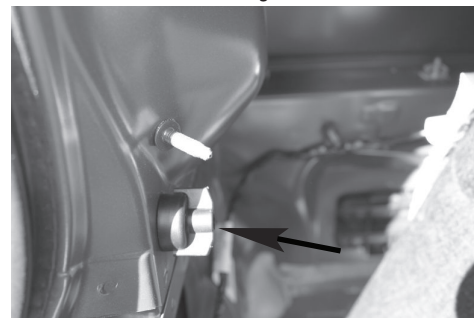

Figure 3
4. Remove the 3 plastic wing nuts that hold taillights to vehicle on each side shown in **Figure 3**.